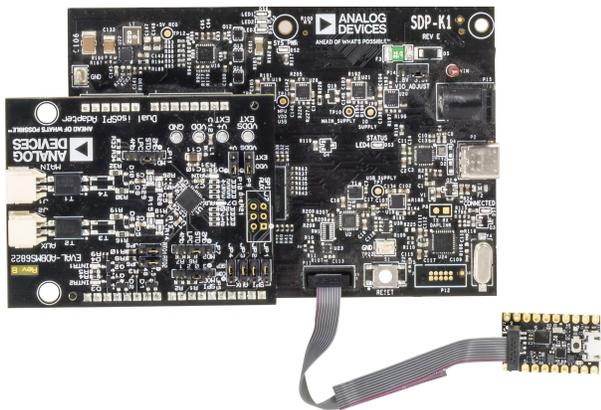

Figure 3. Connecting the MAX32625PICO to SDP-K1 Using an SWD Cable
5. Attach the MAX32625PICO programmer to the SDP-K1 using the 10-pin ribbon SWD cable. Observe correct polarity when connecting the SWD cable, refer to Figure 3.
- Attach the MAX32625PICO programmer to the SDP-K1 using the 10-pin ribbon SWD cable. Observe correct polarity when connecting the SWD cable, refer to Figure 3.